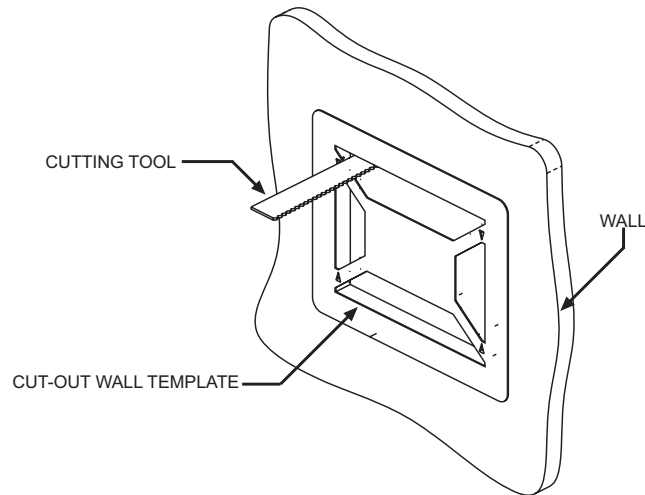

Figure 5 – Cutting Mounting Hole
3. Using a hole saw or other cutting tool, carefully cut along the inner guide lines of the Mounting Template as shown in **Figure 5** below.